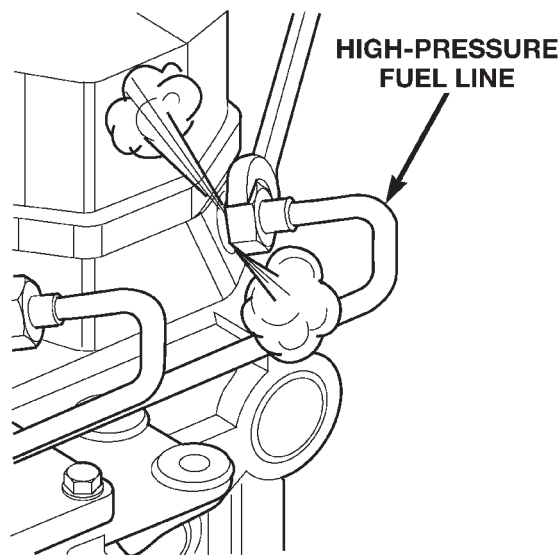

Fig. 38 Bleeding High-Pressure Fuel Lines at Injectors
(9) Thoroughly clean area around injector fittings where they join injector connector tubes.
(10) Bleed air by loosening high-pressure fuel line fittings (Fig. 38) at cylinders number 3, 4 and 5.